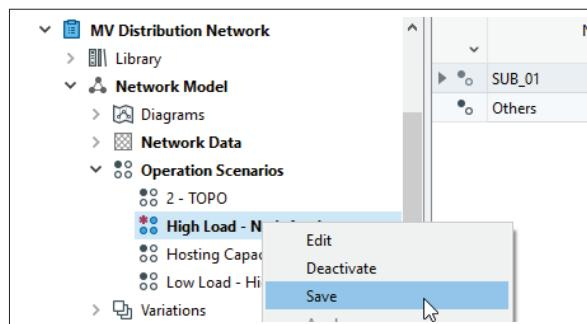

Figure 16.3.3: Saving an operation scenario using the context-sensitive menu
- The context-sensitive menu (right mouse button) entry *Action -> Save* of the operation scenario (see Figure 16.3.3).